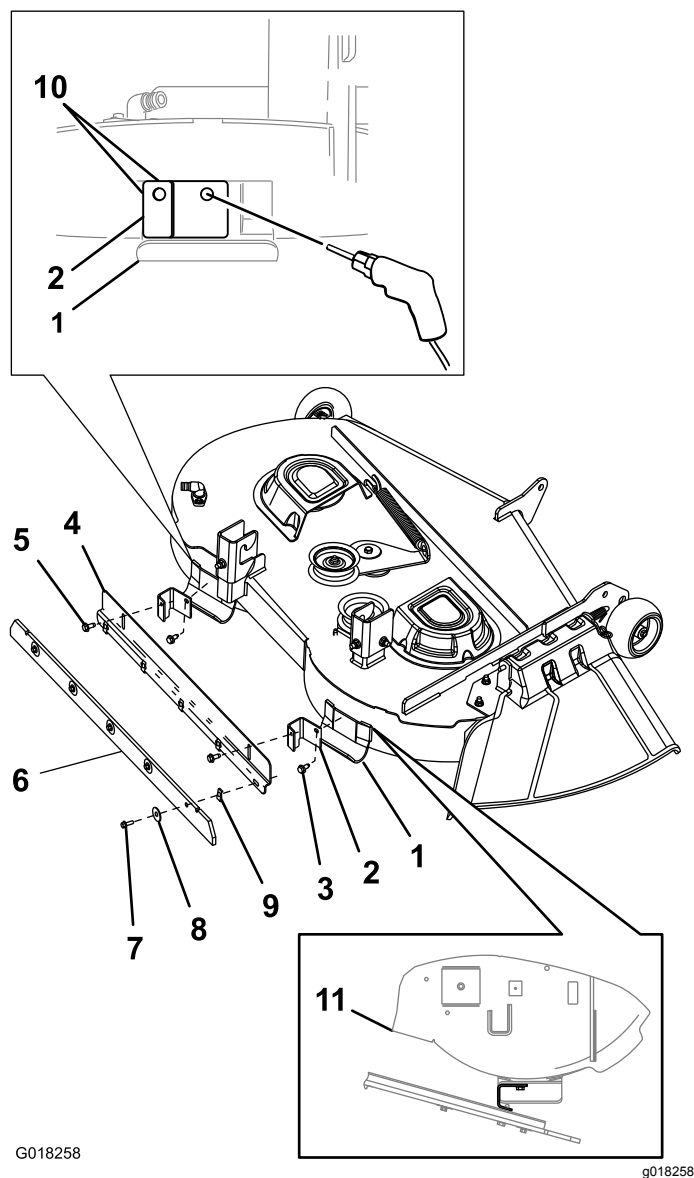

Figure 1
- A. Locate the right skid on the rear-facing side of the mower deck as shown in Figure 1.
- B. Position the longer leg of the mounting bracket for the stripping kit against the right skid. Align the left edge of the mounting bracket with the left edge of skid and the top edge of the mounting bracket with the top edge of the right skid (Figure 1).
- C. Mark the outline of the mounting bracket hole skid (Figure 1).
- A. Locate the left skid on the rear facing side of the mower deck as shown in Figure 1.
- B. Position the longer leg of the mounting bracket for the stripping kit against the left skid. Align the left edge of the mounting bracket with the left edge of skid and the top edge of the mounting bracket with the top edge of the left skid (Figure 1).
1. Align the stripping bracket so that the mounting flange is up and facing the mower deck (the wiper flange is down and away from the deck) as shown in Figure 1.
2. Align the top of the slot in the mounting flange of the stripping bracket with the hole in the short leg of each mounting bracket installed on the skids (Figure 1).
- Secure the striping bracket to each mounting brackets with the self-threading, washer-head screws (Figure 1).